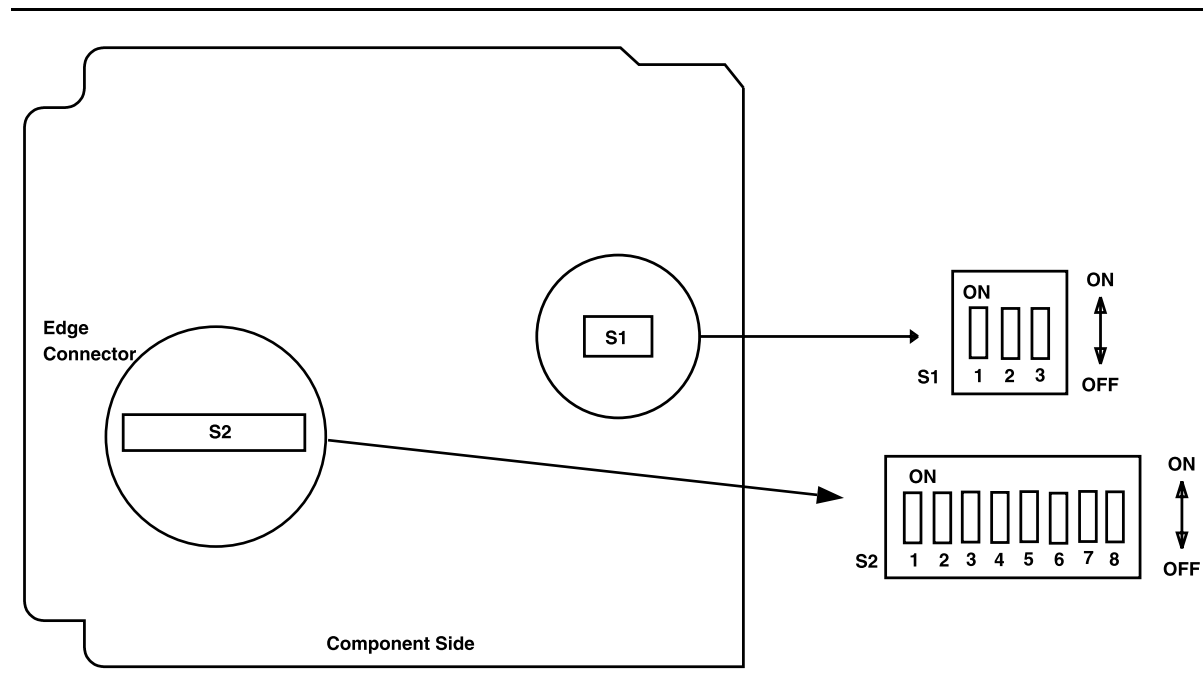

Figure 1 – SYSCTL Option Settings
Determine the desired **SYSCTL** option switch settings from office records and see Figure 1.
4. If **SYSCTL** is being installed in shelf for the first time (initial shelf turnup, only **OHCTL** installed at this time) and switches have not been set, set all switch **S2** sections **S2-1**, **S2-2**, **S2-3**, **S2-4**, **S2-5**, **S2-6**, **S2-7**, and **S2-8** to **OFF**. See Figure 1.